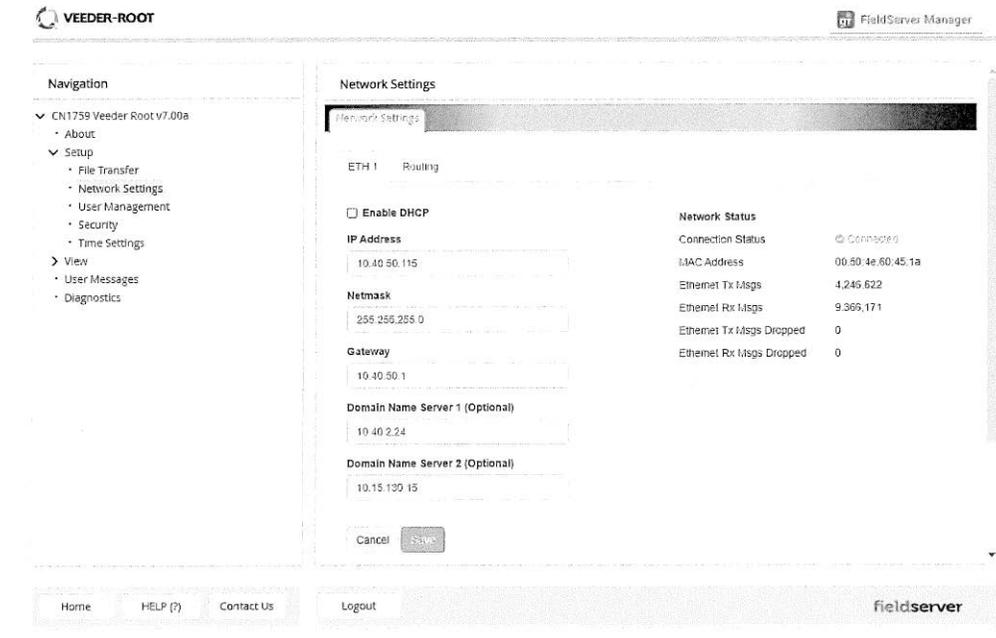

Figure 19. Changing IP Address via FS GUI
**NOTICE** The FieldServer Manager tab  (see upper right corner of browser in Figure 19) allows users to connect to the Grid, MSA Safety’s device cloud solution for IIoT. FieldServer Manager enables secure remote connection to field devices through a FieldServer and its local applications for configuration, management, maintenance. For more information about the FieldServer Manager, refer to the MSA Grid - FieldServer Manager Start-up Guide.